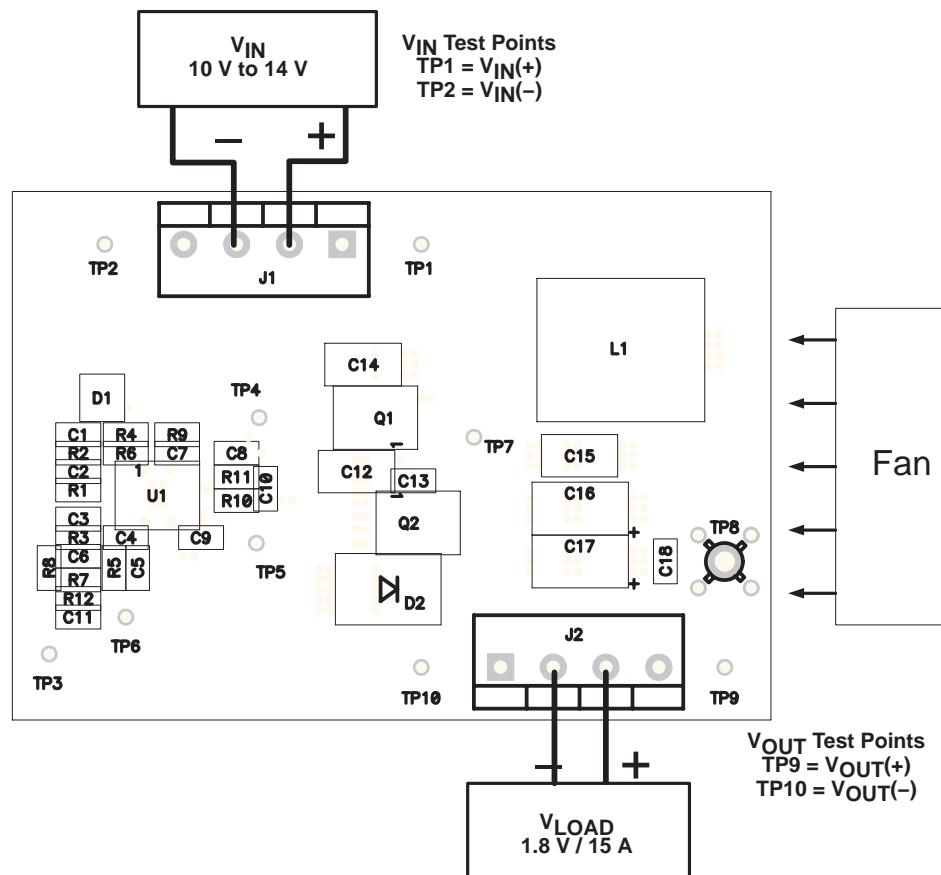

Figure 2. Test Setup
The output inductor L1 value used in the circuit of Figure 2 was selected from equation (4).
Figure 2 illustrates the basic test setup needed to evaluate the TPS40055EVM–001.